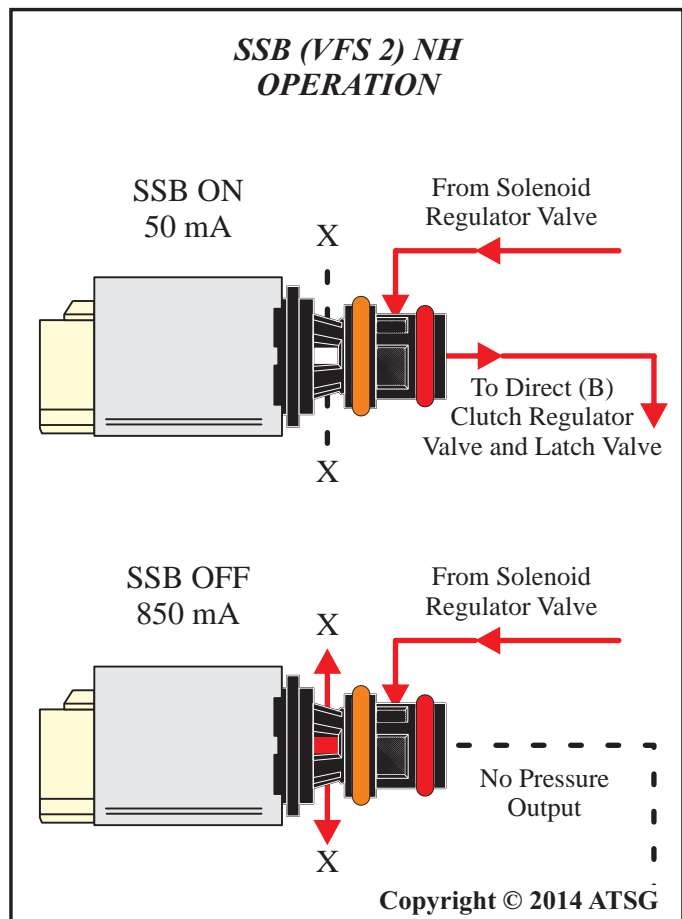

Figure 14
Shift Solenoid B, or Variable Force Solenoid 2 is a Normally High (NH) or normally applied solenoid and uses inversely proportional control. The Mechatronic Control Unit, or PCM will vary the control amperage through the solenoid circuit in order to control the output pressure through the solenoid. Refer to the solenoid apply chart in Figure 12. The chart shows SSB applied amperage of 850 mA when the solenoid is OFF and applied amperage of 50 mA when the solenoid is ON. Refer to the diagram in Figure 14. Hydraulic solenoid control pressure is supplied by the solenoid regulator valve in the main control assembly and is directed to the solenoid in the passage between the two o-rings. With control amperage of 50 mA, the control valve in the solenoid is closed and pressure not exhausted, instead control pressure is directed through the front of the solenoid and is used to control the apply and release of the direct (B) clutch through the direct (B) clutch regulator valve and direct (B) clutch latch valve. With control amperage of 850 mA, the control valve in the solenoid is open and pressure is exhausted through the back of the solenoid.